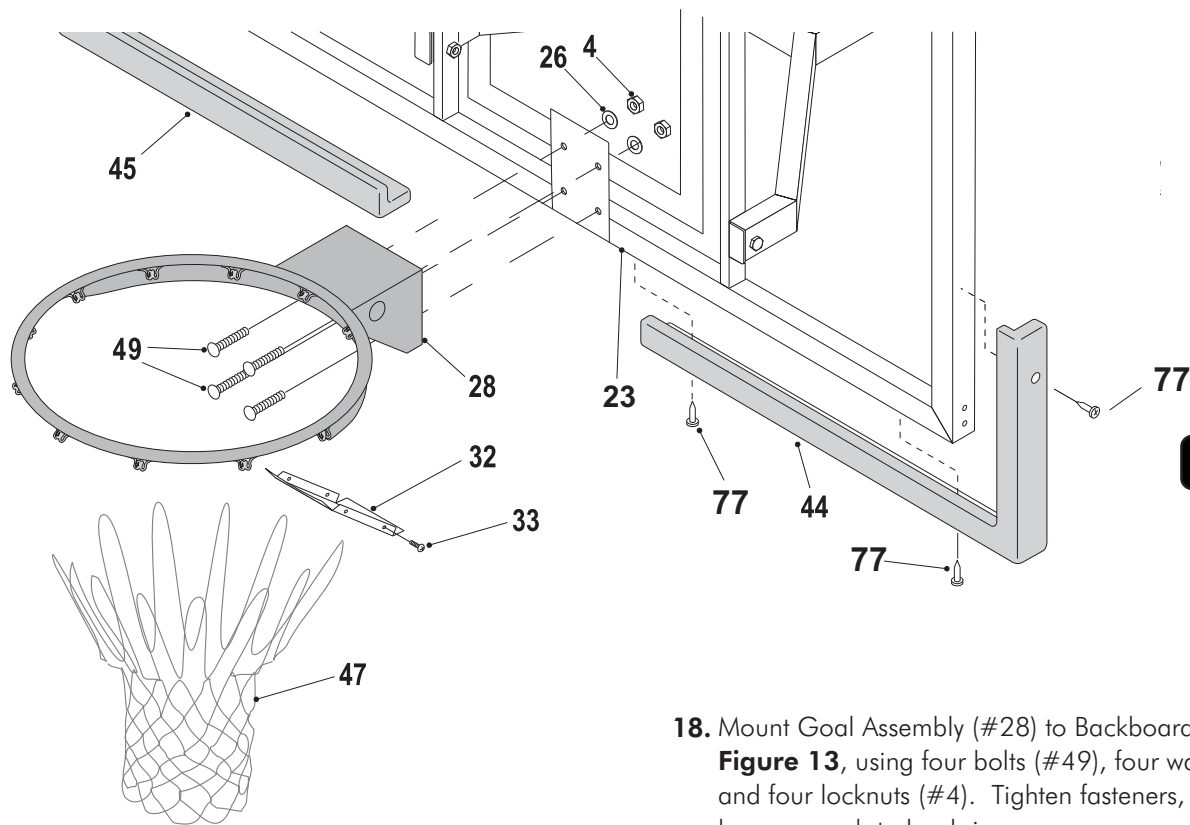

Figure 13
18. Mount Goal Assembly (#28) to Backboard, as shown in **Figure 13**, using four bolts (#49), four washers (#26), and four locknuts (#4). Tighten fasteners, but leave them loose enough to level rim.
20. Attach Rim Cover Plate (#32) using four screws (#33). See Figure 13.
22. Use the Backboard Pads (#44) and (#45) as a template and mark the hole locations on the backboard frame. See **Figure 13** and **Detail A**.